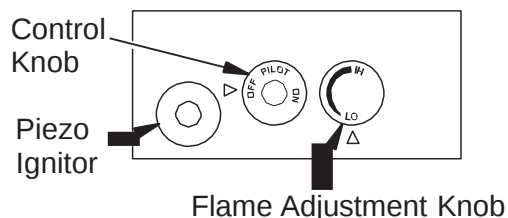

Figure 18 - Setting Control Knobs
4. Press in and turn control knob clockwise to the OFF position (see Figure 18, page 13).
5. Wait five (5) minutes to clear out any gas. If you then smell gas, STOP! Follow "B" in the safety information in column 1. If you don't smell gas, go on the next step.
6. Press in and turn control knob counterclockwise to the PILOT position. Press in control knob for five (5) seconds (see Figure 18, page 13).